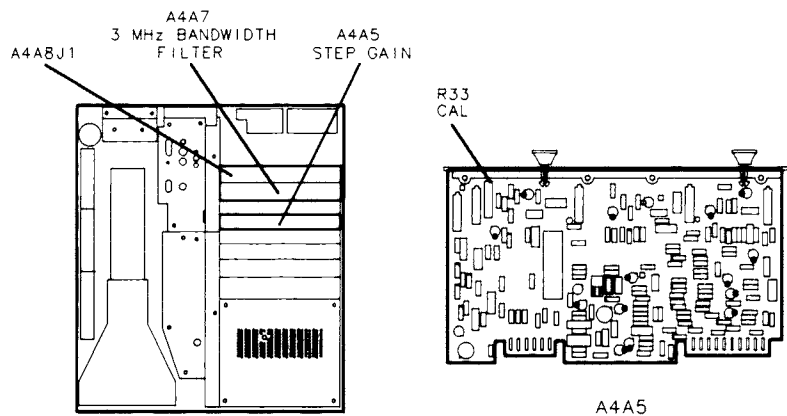

Figure 3-47. Location of IF Gain Adjustment
10. Disconnect cable 97 (white/violet) from A4A8J1 and connect cable to the calibrated power meter/power sensor. Refer to Figure 3-47 for location of cable 97 and A4A8J1.
14. Note MARKER amplitude in mV and adjust A4A5R33 CAL to 70.7 mV (top CRT graticule line). See Figure 3-47 for location of adjustment.